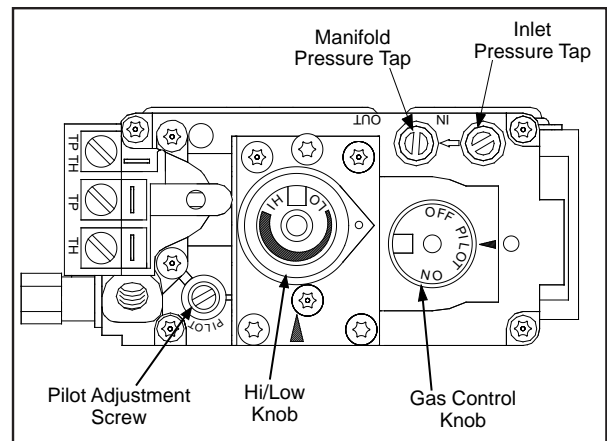

Figure 48: Fully Labeled Gas Valve.
3. Remove the four mounting screws holding the spill switch bracket and remove the bracket (see Figure 48).